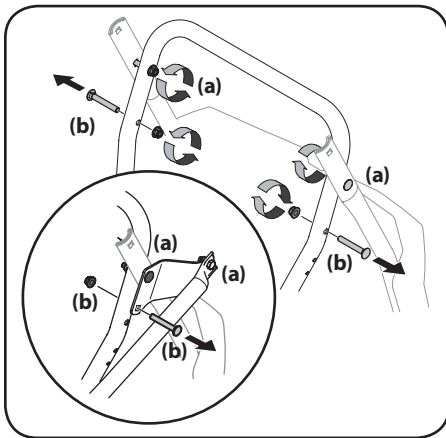

Figure 2-2
2. Loosen the top two lock nuts (a) securing the upper and lower handle and remove the two carriage screws (b) from the lower handle and set aside as shown in Figure 2-2. Refer to inset in Figure 2-2 for models with side support.
6. Reattach the two carriage screws and lock nuts removed earlier as shown in Figure 2-2.